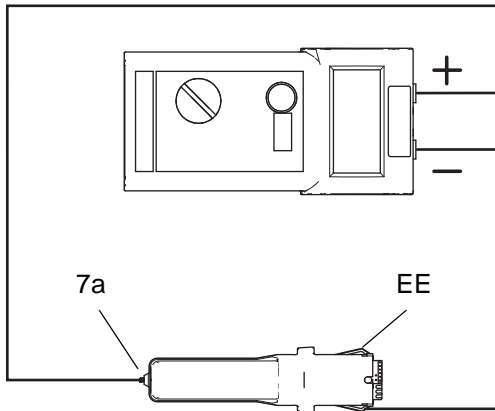

FIG. 22. Test Power Supply Resistance
1. Remove the power supply (7), page 47.
2. Remove the turbine alternator (8) from the power supply, page 48.
3. Measure resistance from the power supply's ground strips (EE) to the spring (7a). See FIGURE 22.